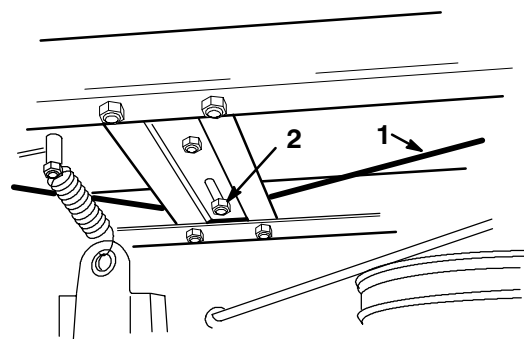

Figure 6
2. Check the cable tension. Cable should be taught and have 1/2" movement with slight pressure applied (Fig. 6).
4. To adjust the cable tension loosen the front cable guide, located on tractor brace above deck pulley. Slide guide sideways as required for proper tension (Fig. 6).